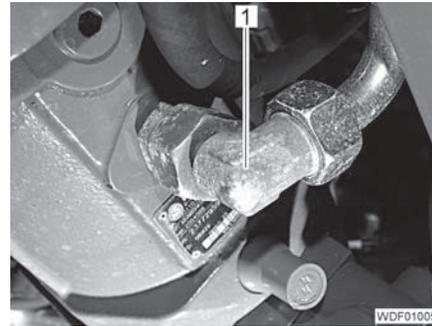

Fig. 252 Hydraulic line of the cross flushing connection
- Unscrew and close off the hydraulic line of the cross flushing connection (Fig. 252,1).